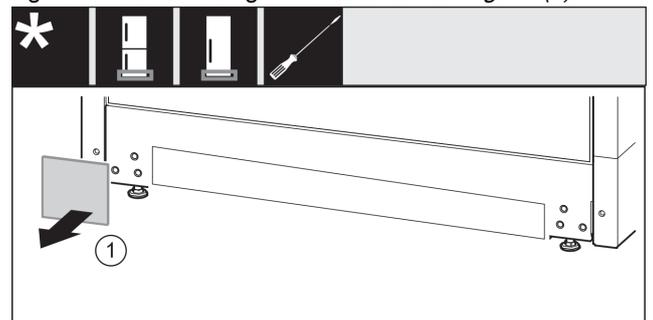

Fig. 12
- ▶ Remove the cover. Fig. 12 (1)